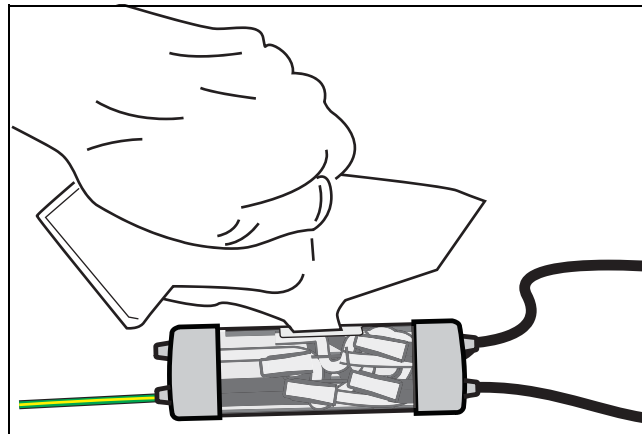

Figure 9. Pouring Sealing Compound Into Sleeve
6. Once the mixture feels warm, immediately cut one corner and slowly fill the enclosure's plastic sleeve. Stop just short of filling the entire sleeve. **Do not overfill.** [Figure 9]